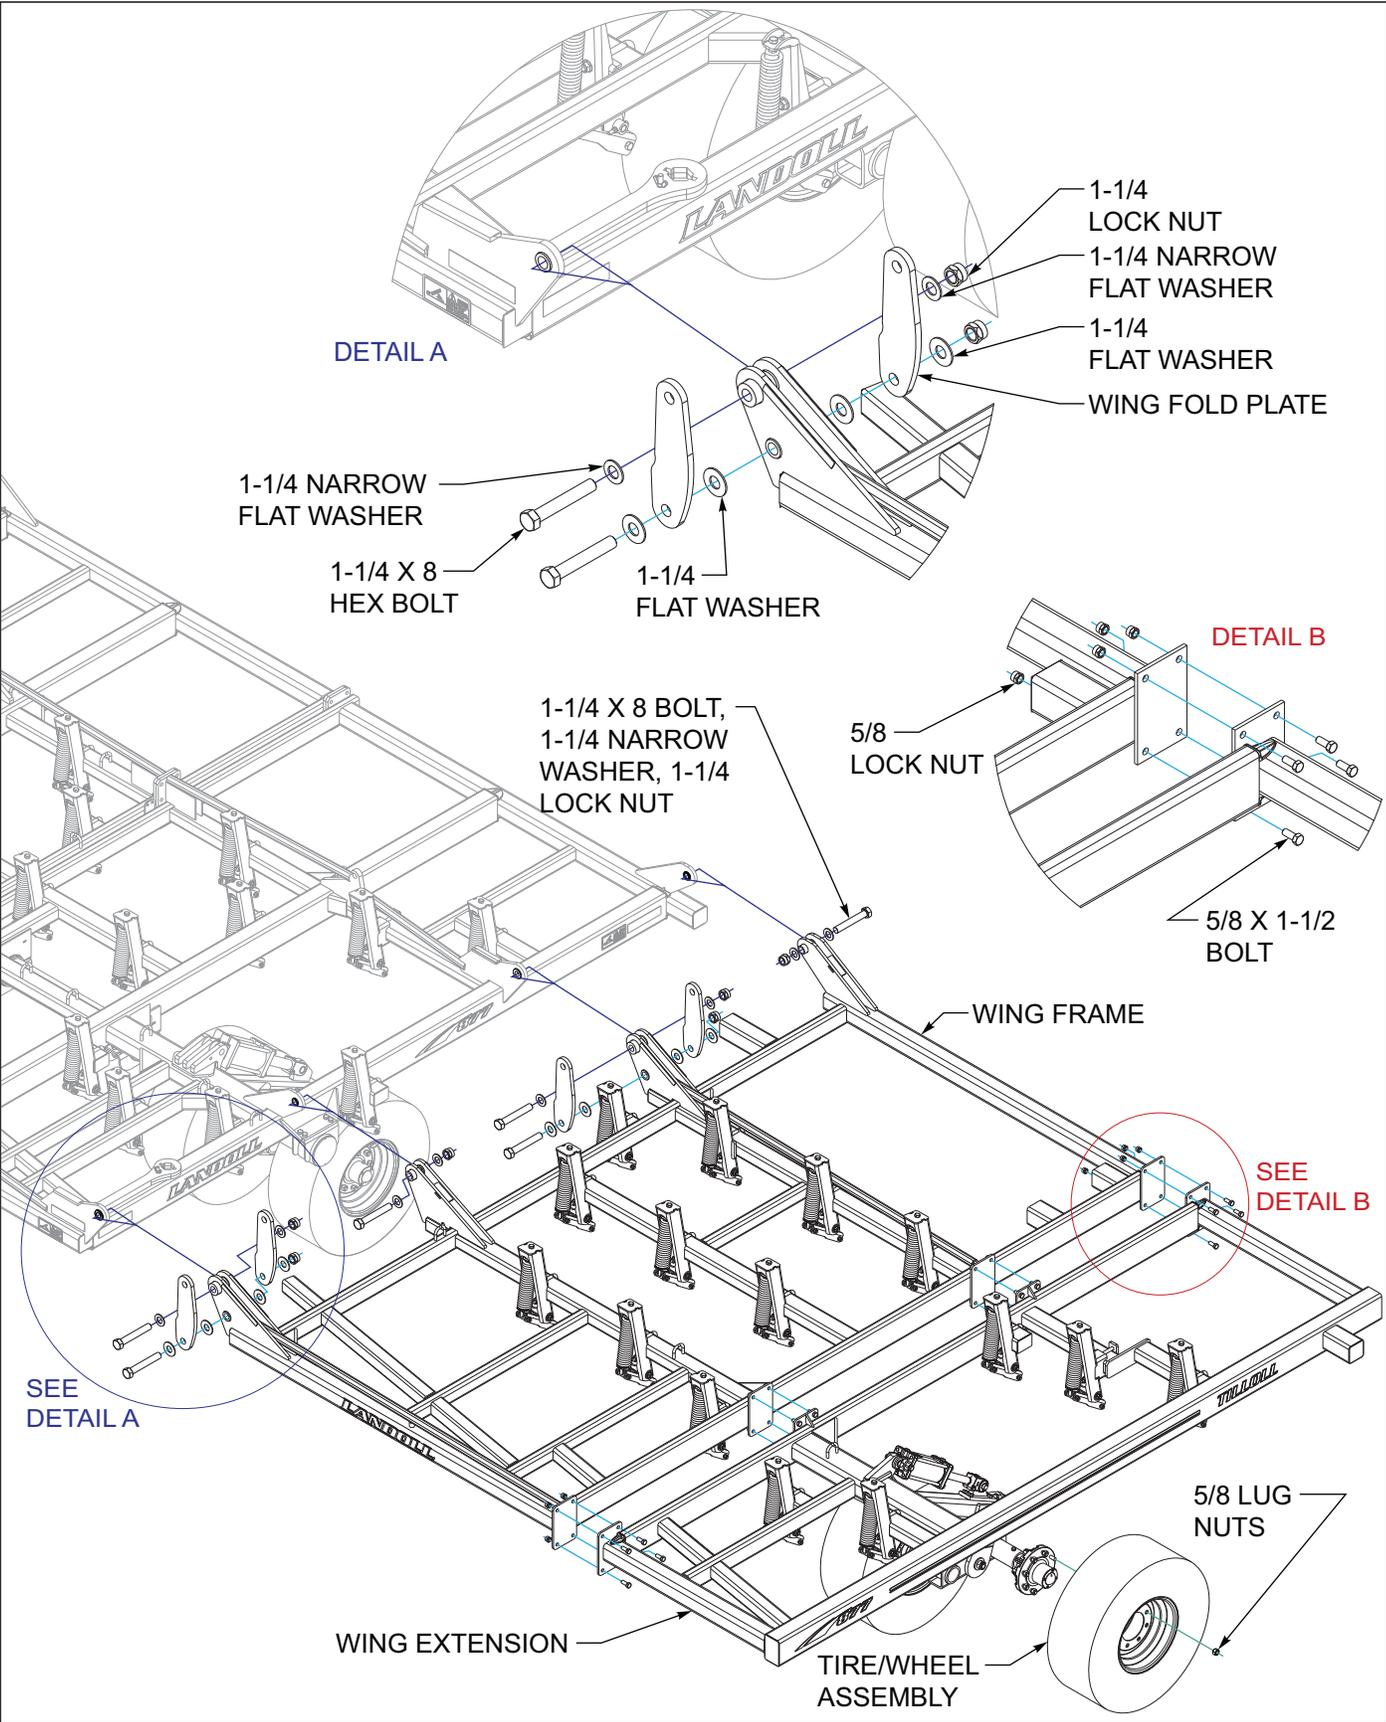

Figure 3-6: Wing Frame Assembly 40'
3. On 40' models, assemble the wing frames to the center frame using 1-1/4 x 8 hex bolts, 1-1/4 narrow flat washers and 1-1/4 lock nuts **See Figure 3-6**. Install wing extensions to wing frames using 5/8-11 x 1-1/2 hex bolts and 5/8 lock nuts. Assemble the wing fold plates to the wing frames using 1-1/4 x 8 hex bolts, 1-1/4 flat washers and 1-1/4 lock nuts. Use flat washers on both outside and inside of the wing fold plates.